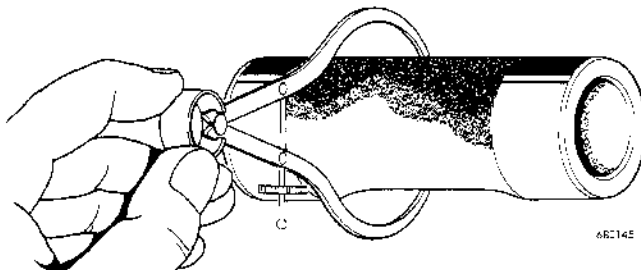

Figure 4
1. .120" external bushing wear. The amount of wear can be measured in any of these ways shown in Figures 4, 5, and 6.